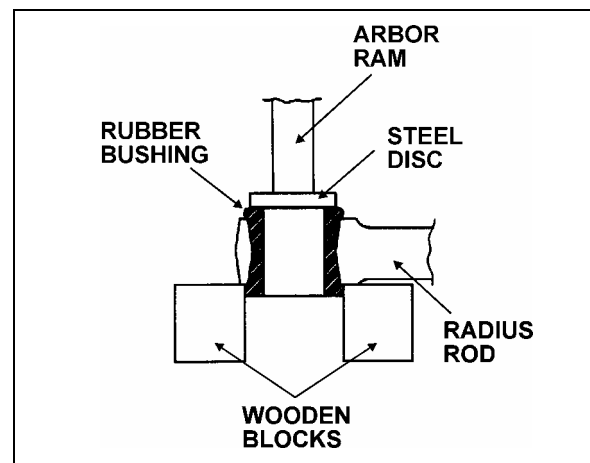

FIGURE 10: RADIUS ROD BUSHING REMOVAL 16011
- Safely support the radius rod as shown in figure 10.
- Place a flat steel disc, slightly smaller than the outside diameter of the bushing (Fig. 10).